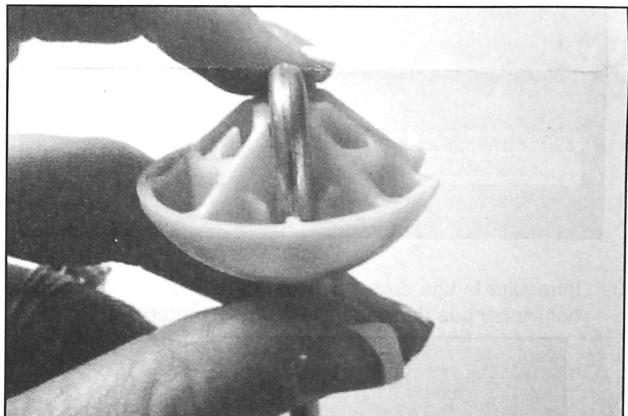

FIGURE 4
5. Align end of suspension damper rod hook into pocket on suspension ball. See *Figure 4*.